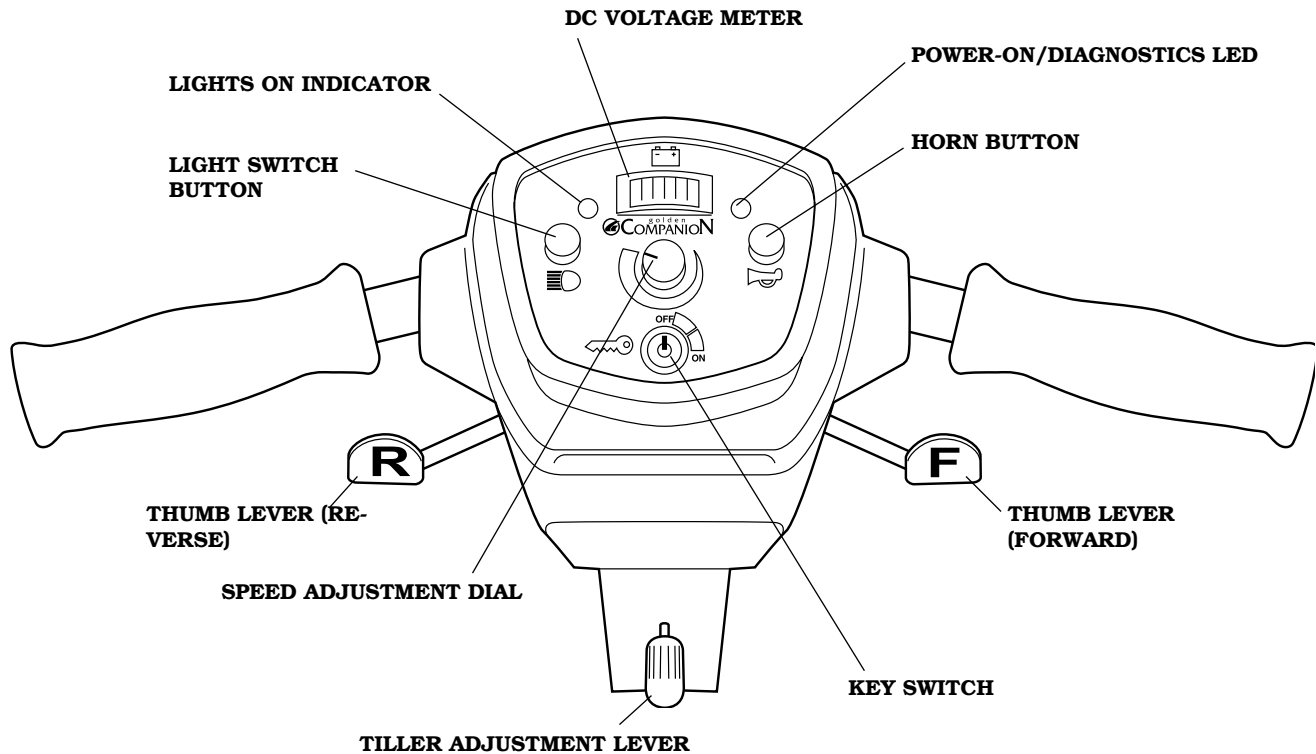

FIGURE 4. CONTROL PANEL
This meter (see figure 4) shows the amount of voltage in your Companion's batteries.
- Use your other hand to push down and hold the tiller adjustment lever (see figure 4).